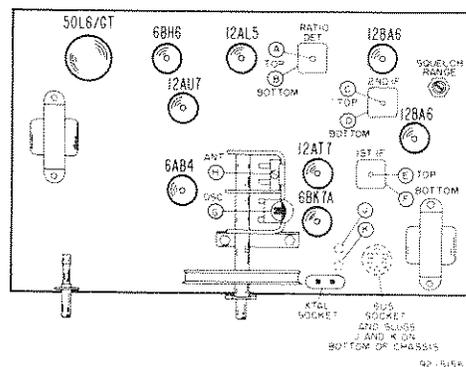

Fig. 3. Tube Location and Alignment Adjustments
The Squelch Range control (Figure 3) adjusts the operating point of the output section of the 12AU7 squelch tube (V-8). This control has been carefully adjusted at the factory for proper operation and will normally not
- See Figure 3 for location of alignment adjustments.